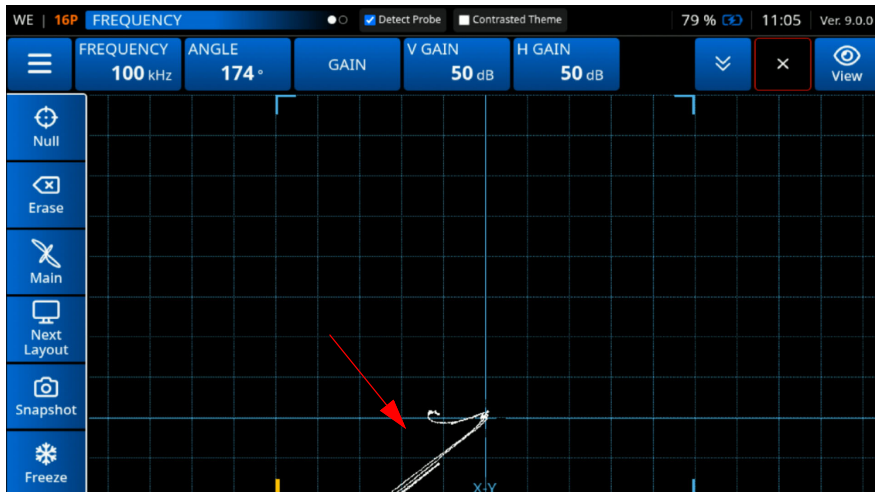

Figure 3-28 Adjusting the Sensitivity Setting
6. Adjust the **Sensitivity Setting** by orienting the longest face of the probe perpendicular to the notches and scanning the 1.0 mm (0.04 in.) notch, and press **Freeze** (See Figure 3-28 on page 65).